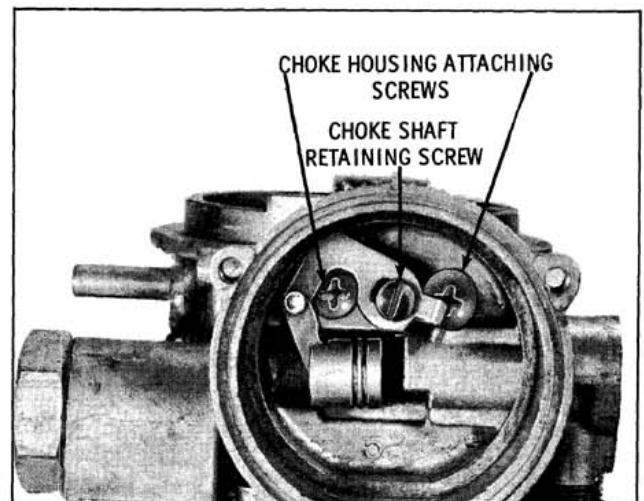

Fig. 4-9 Choke Housing Attachment
4. Remove choke piston and lever assembly from inside choke housing by removing lever attaching screw from center of choke shaft. (Fig. 4-9)
6. Remove two choke housing attaching screws inside choke housing, then remove choke housing from air horn. (Fig. 4-9)